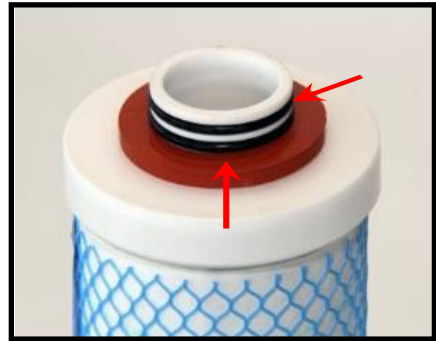

Figure 9: Filter cartridge with O-rings and Silicone Gasket
- b. Apply thin film of Petrol-Gel O-Ring lubricant (included) on both O-Rings (Figure 9).